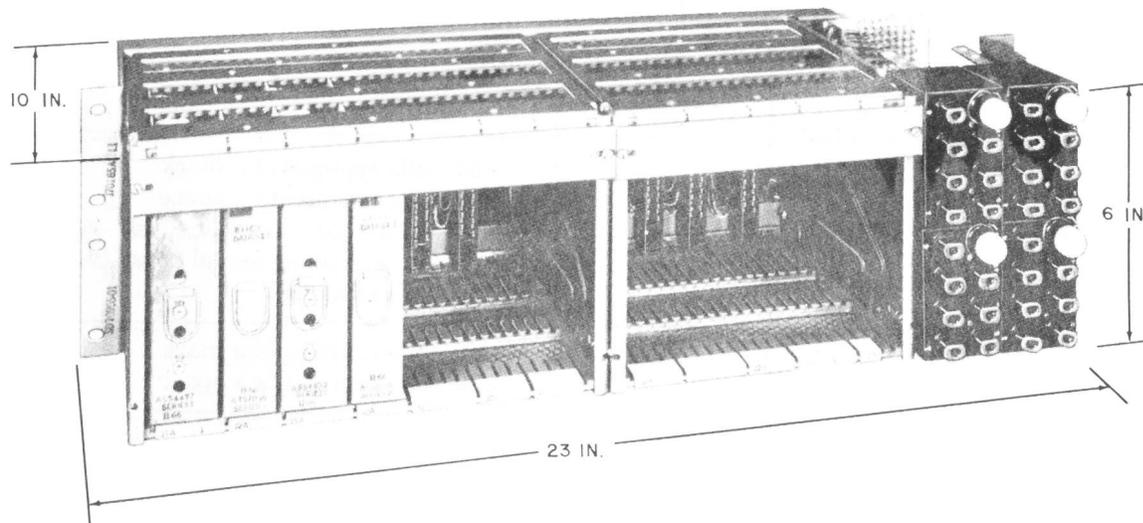

Fig. 3—J70165A-1 Mounting Panel for Six Data Sets 108B or 109B and Six Data Auxiliary Sets 811C
2.01 The Data Auxiliary Set 811C is a printed circuit board that is designed to be mounted in a J70165A-1 Mounting Panel along with a Data Set 108B or 109B. Refer to the section entitled Data Set 108B, Description (312-800-100) for additional information on the 108B. Refer to the section entitled Data Set 109B, Description (312-802-100) for additional information on the 109B. Fig. 3 shows the J70165A-1 Mounting Panel.